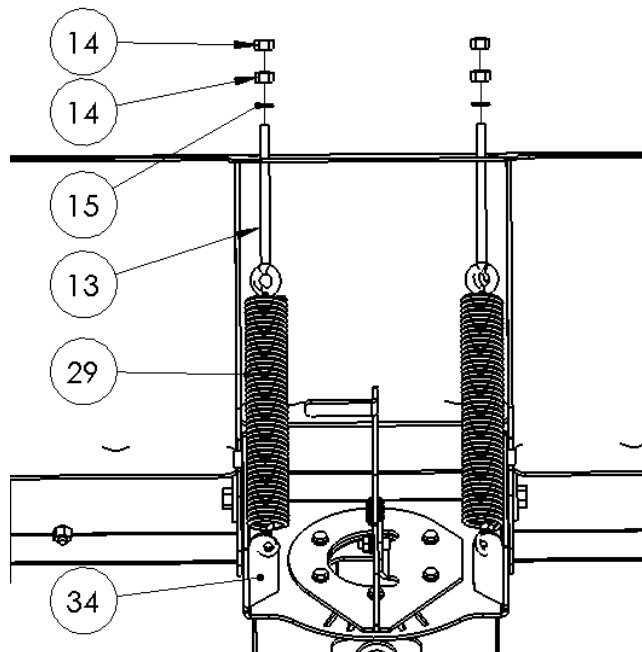
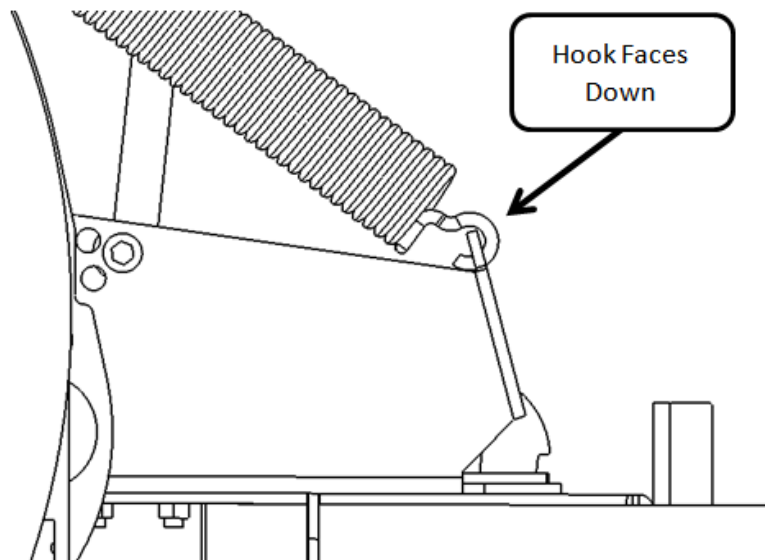

Figure 9a
Figure 9b
- 10) Install the 10" Extension Springs (#29) and 3/8" Eye Bolts (#13) between the Slotted Top Plate (#34) and the top of the Plow Blade (#1). The hook of the Extension Spring should face downward when attached to the Slotted Top Plate as shown in Figure 9b. Use the 3/8" Nuts (#14) and 3/8" Washers (#15) to tension the Eye Bolts (#13). **Installation Tip:** Attach the Springs to the Slotted Top Plate first and then attach the Eye Bolts. Tension the springs until taught; increase tension if the blade trips too easily. (See Figure 9a and 9b)